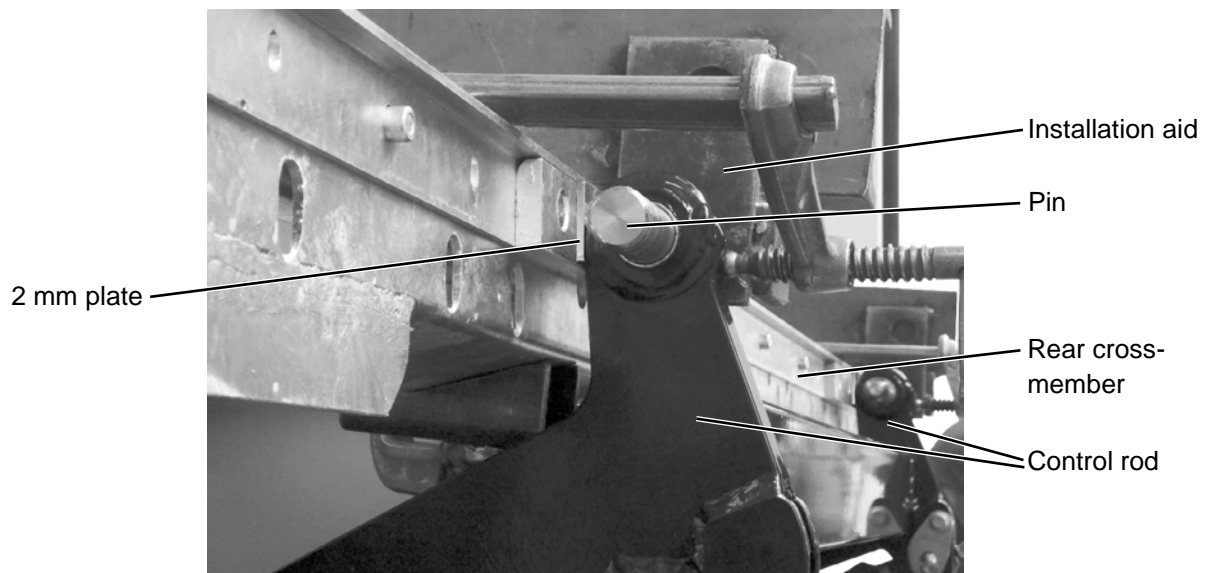

Figure 16: 2 mm spacer plates for assembly of a coated platform
- Place 2 mm plates between the control rods of the torsion frame and the superstructure as spacers (see Figure 16).
- ▶ Remove the pins between the control rods and the installation aids (see Figure 16, page 37).